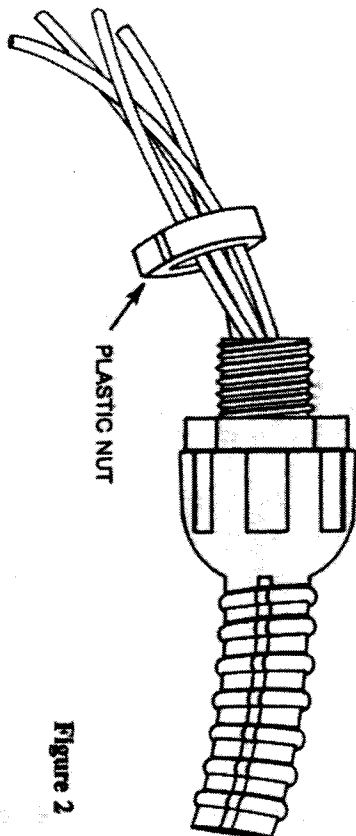

Figure 2
4. Remove plastic nut from threaded end of flexible conduit. (see Figure 2.)